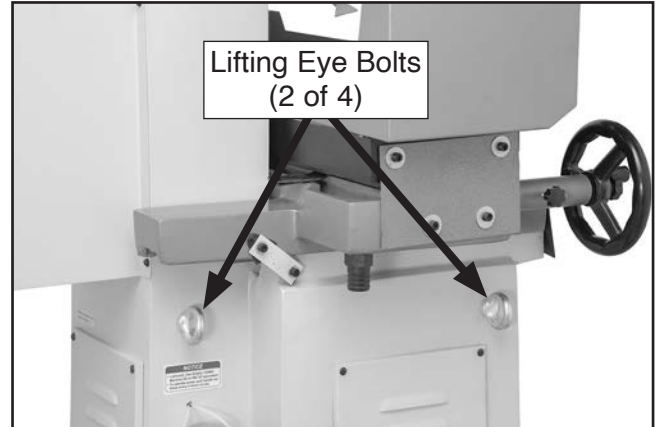

Figure 23. Lifting eye bolts (2 of 4 shown).
6. Turn Y-axis handwheel until saddle is centered equally between lifting eye bolts (see **Figure 23**).